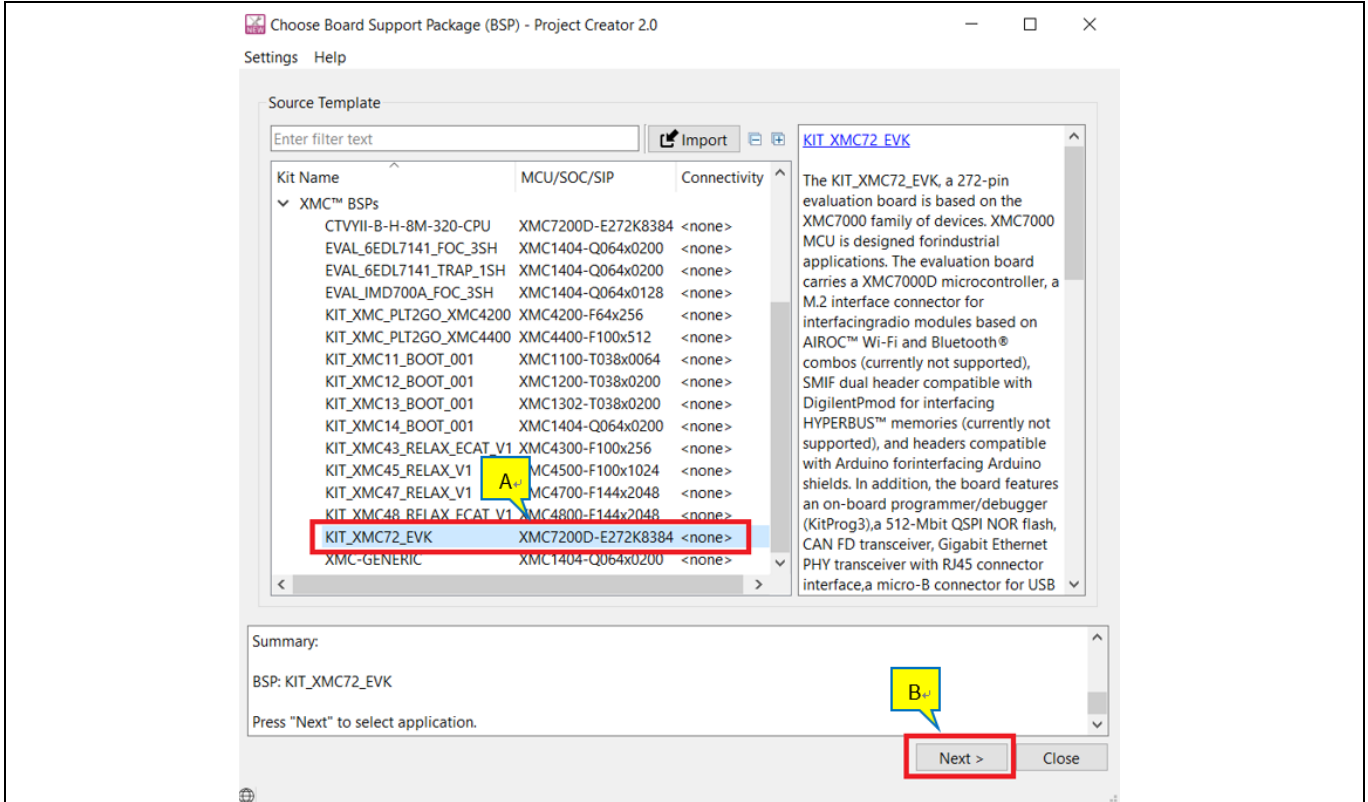

Figure 8 Choose target hardware
- a) In the **Choose Board Support Package (BSP)** dialog, choose the **Kit Name** that you have. The steps that follow use **KIT_XMC72_EVK**. See Figure 8 for help with this step.